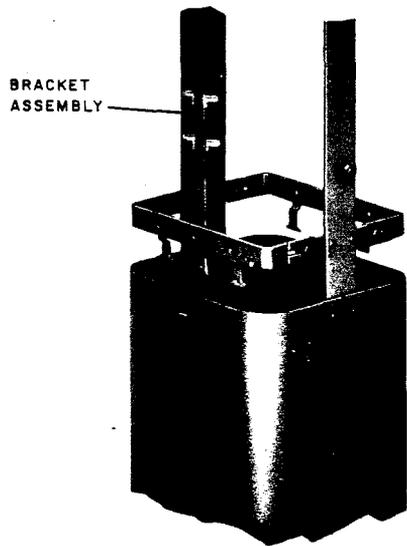

Fig. 25—Bracket Assembly Installed
9.02 The bracket assembly is installed on the ground bracket with the nuts and bolts provided. The plastic clips and AT-7796X Connector are faced to the inside of the closure (Fig. 25).